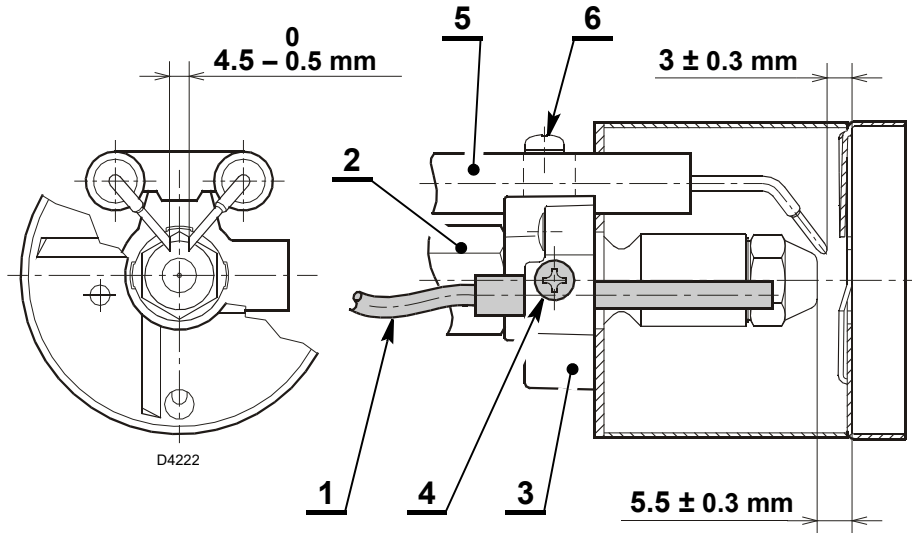

Fig. 12
The measures in Fig. 12 must be complied with.
- place the diffuser disc holder assembly 3)(Fig. 12) on nozzle holder 2)(Fig. 12) and secure with screw 4)(Fig. 12).
For any adjustment of the electrode assembly 5) loosen the screw 6)(Fig. 12).
- Insert the optical fiber 1)(Fig. 12) into the diffuser disc holder 3) and ensure that it reaches up to the end-of-stroke.
- Carefully tighten the screw 4)(Fig. 12) to secure the optical fiber 1)(Fig. 12).